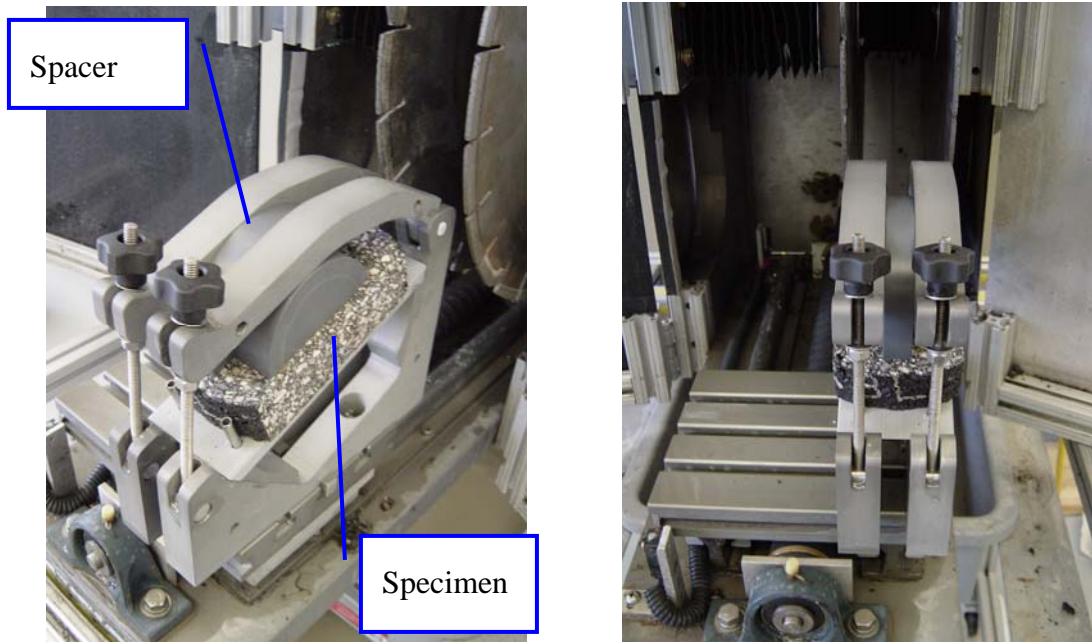

Figure 4. Specimen disc after installation and cutting. Notice saw blades have been moved into the correct position (3") prior to making this cut.
2. Place the spacer on top of the disc. Screw knobs onto all-thread until specimen is adequately secured underneath spacer and clamp arm (see Figure 4).